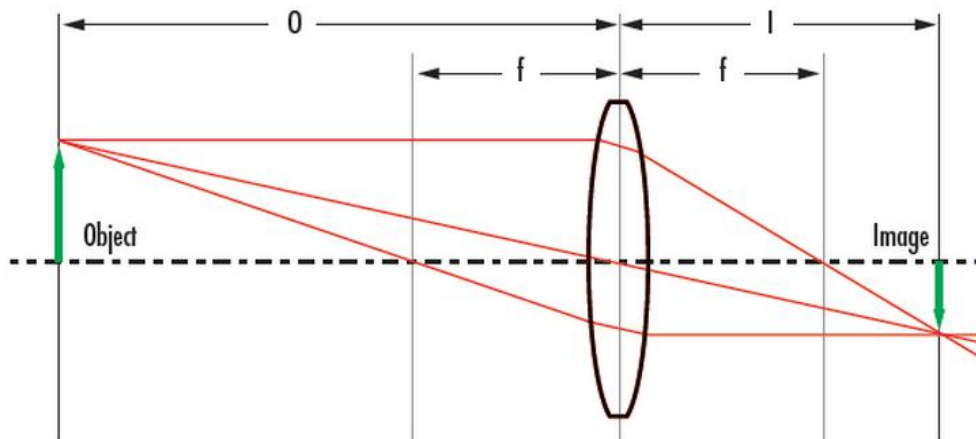

Figure 1: An Illustration of the relationship between image and object distance (I and O respectively) and lens focal length (f).
Generally, the main purpose of adding a spacer is to increase the vision system's magnification or shorten the working distance; these two changes occur in tandem and are explained by the Gaussian imaging equations. Equation 1 shows the relationship between image distance (I), object distance (O) and the focal length of the lens (f). Note that the object distance is a negative number. By increasing the image distance, the object distance (working distance of the lens) must decrease. When the working distance and image distance change, so must the magnification (PMAG), based on Equation 2. Figure 1 shows this effect visually. Imaging lenses are more complex systems and the calculations for spacer usage are more complicated. More details on how to do this can be found on our website.